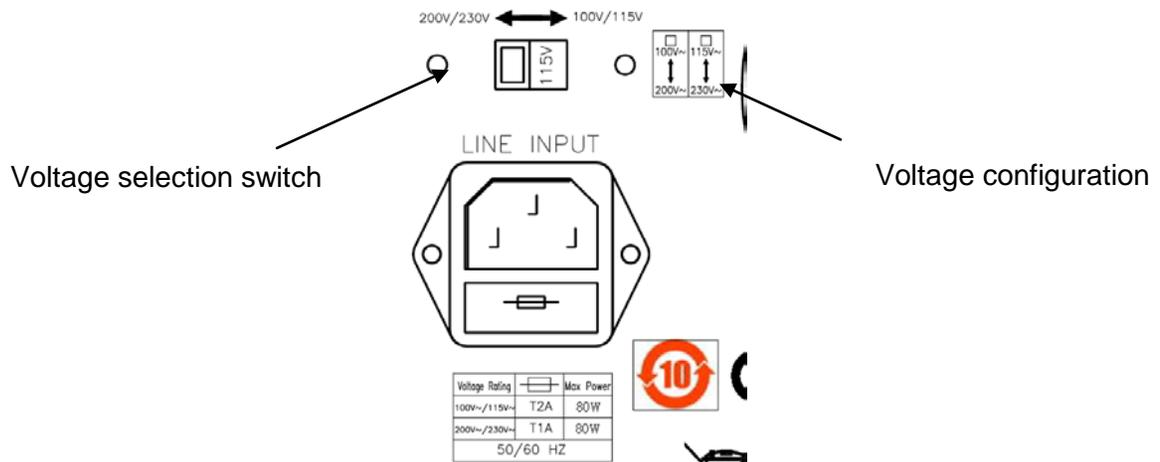

Fig 2-1 SET OF SWITCH
2.2.2. Refer the drawing on the rear panel of 3350F Series high power load in Fig 2-1, set The switches to the proper voltage as describe in the following: